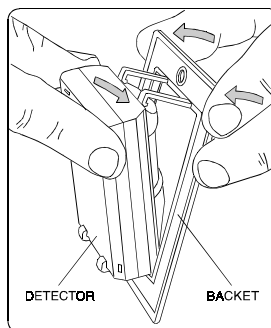

Figure 4. Flush Mounting Brackets (MRF-301)
1) **Flush-mounting bracket** (model MRF-301). The arms of the wall plate bracket snap into the slots on the back of the detector unit (Fig. 4); attach bracket to the mounting surface with 2 screws at the desired location.